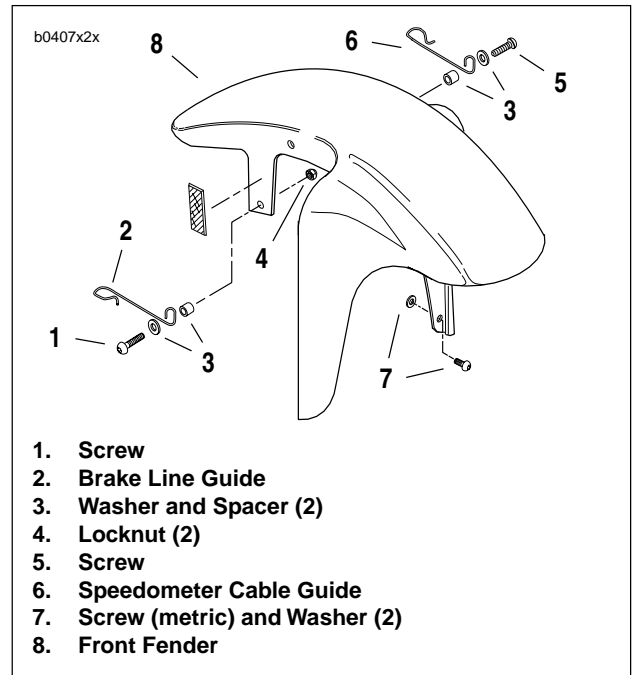

Figure 2-102. Front Fender
2. See Figure 2-102. Remove both lower mounting screws (metric) and washers (7).
3. Remove upper mounting screws (1, 5) and washer and spacer (3) on each side. Do not remove brake line guide (2) and speedometer cable guide (6) from around lines/cables unless necessary.
1. Place washer and spacer (3) around brake line guide (2) as shown in Figure 2-102. The guide retaining loop points outward and back. Install screw (1) through assembly, but do not tighten at this time.
2. Place washer and spacer (3) around speedometer cable guide (6). The guide retaining loop points outward and back. Install screw (5) through assembly, but do not tighten at this time.
3. Install lower mounting screws (7) (metric). Plastic washer fits between fork leg and back of fender. Tighten to 10-15 **in-lbs** (1-2 Nm).